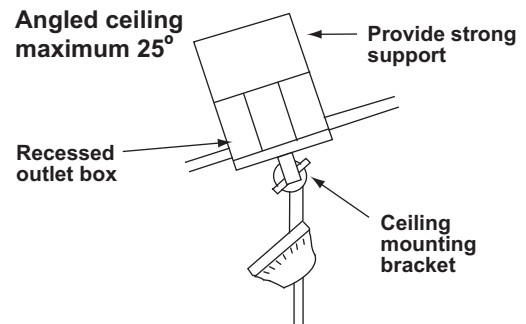

Figure 3
**Note:** The Fig. 3 are for use for downrod style only.
**Note:** You may need a longer downrod to maintain proper blade clearance when installing on a steep, sloped ceiling. (Fig. 3)